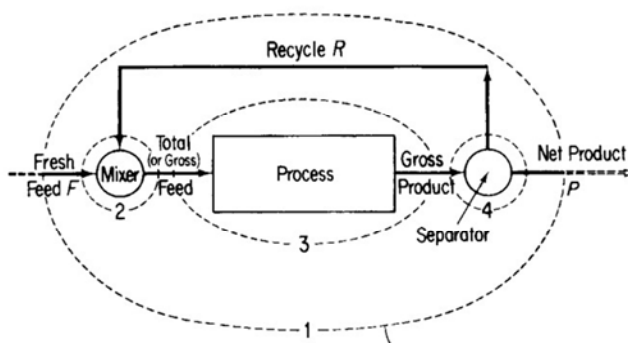

Figure 12.2 Process with recycle (the numbers designate possible system boundaries for the material balances).
- ❖ Examine Figure 12.2. You can write material balances for several different systems, **four** of which are shown by dashed lines in Figure 12.2 (**Overall balance 1**, **Mixer balance 2**, **Process balance 3** & **Separator balance 4**).
- ❖ In addition, you can make balances (not shown in Figure 12.2) about **combinations of subsystems**, such as the **process plus the separator (3 plus 4)**, or the **mixing point plus the process (2 plus 3)**.